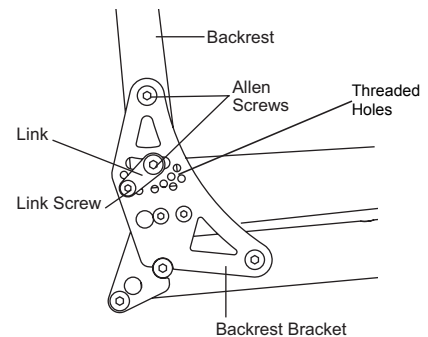

Figure 28
2. On both sides of the chair, loosen, but do not remove, the two Allen Screws that attach the backrest to the backrest bracket. See Figure 28.